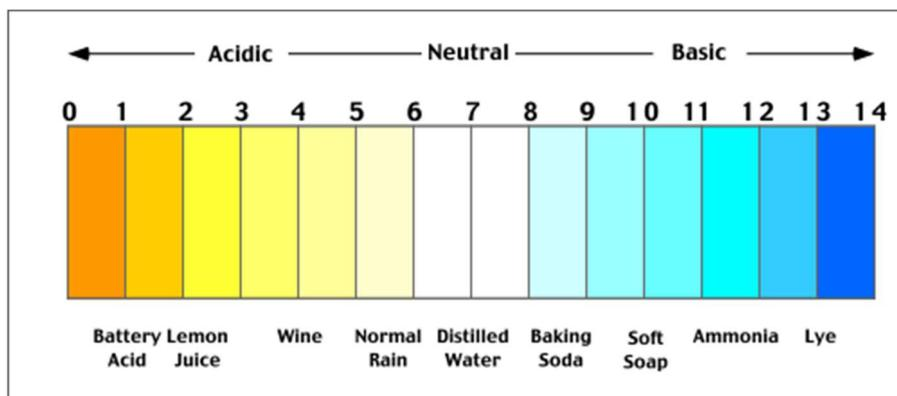

Fig. 3.1. pH range of different substances³⁹.
1. What is the pH of the surface of human skin surface? Indicate it in the figure below (Fig. 3.1).